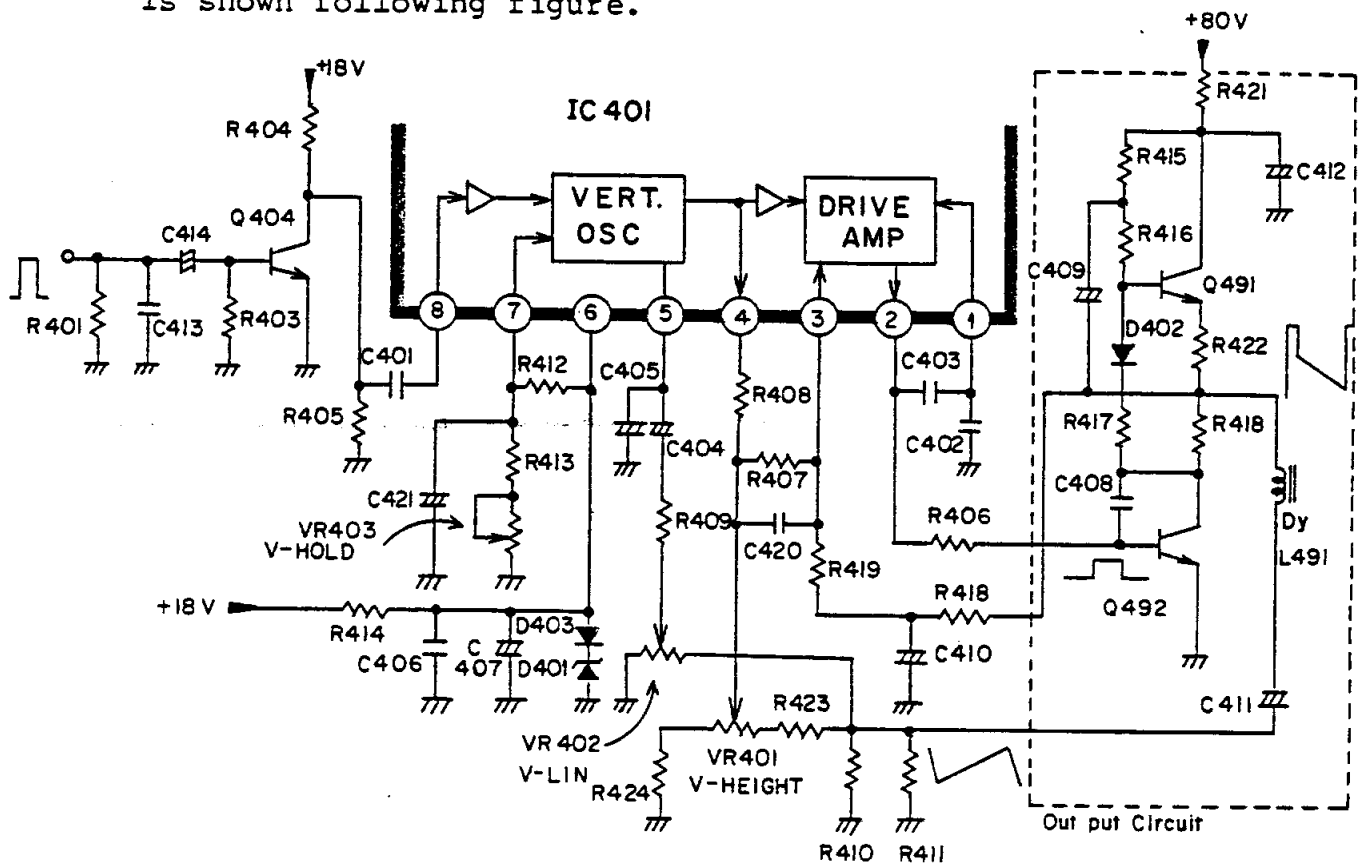

Fig. 3-15 Vertical Deflection Circuit
The part shown by dotted line in Fig. 3-15 is a vertical output circuit. When the power is turned on, Q491 is turned on by forward bias made by R415, R416, D402, R418, and R422. At the same time, collector current flows into C411 from L491 (DY), and C411 is charged.